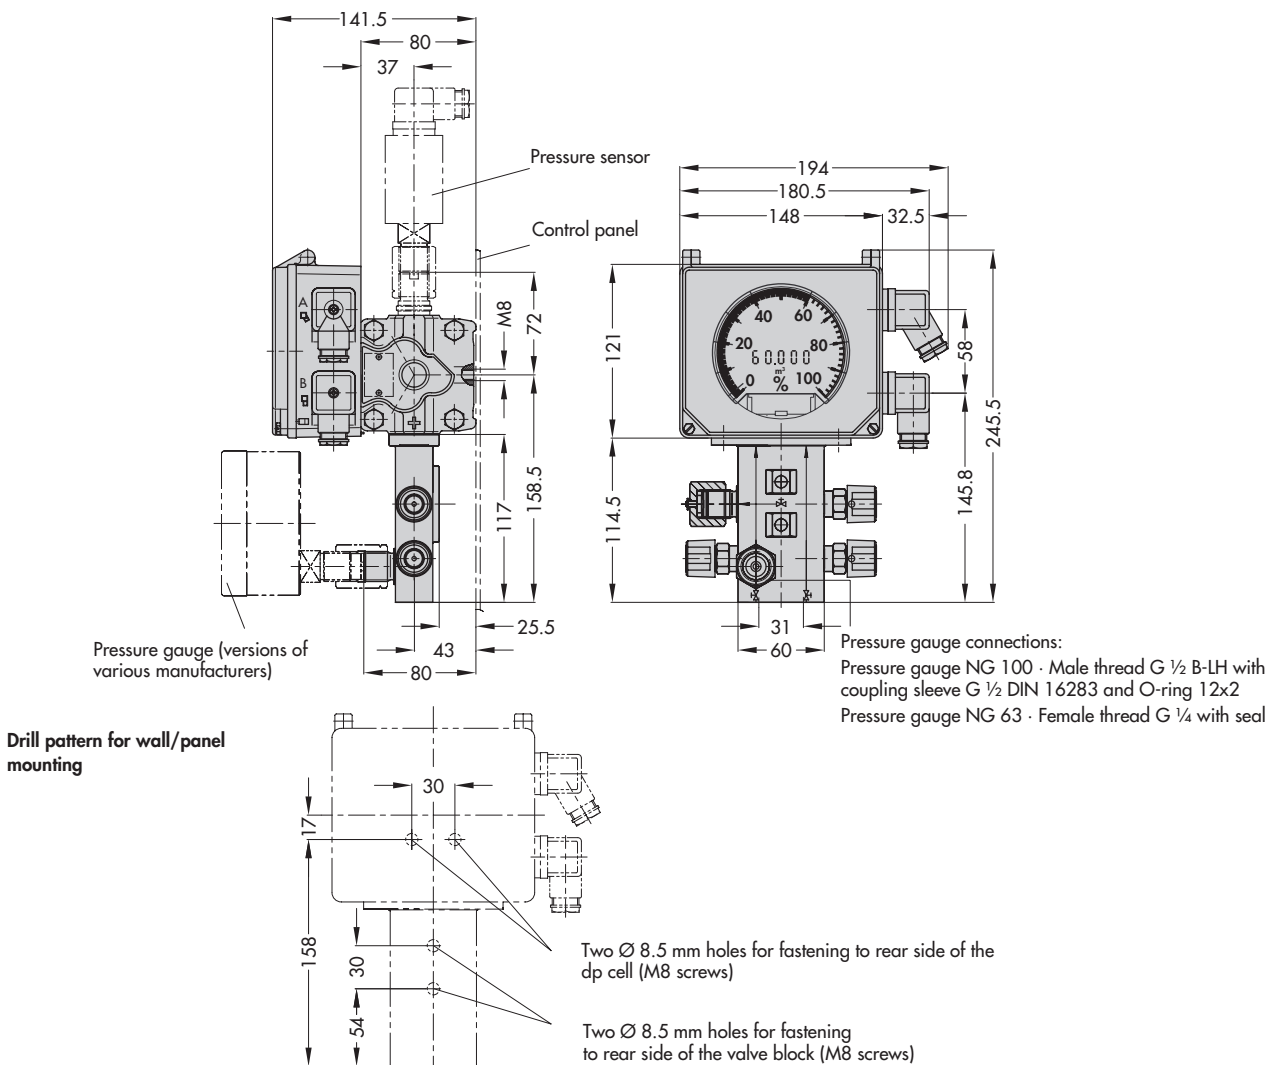

Fig. 6 · Dimensional diagram
- See bottom diagram in Fig. 6 for control panel mounting.